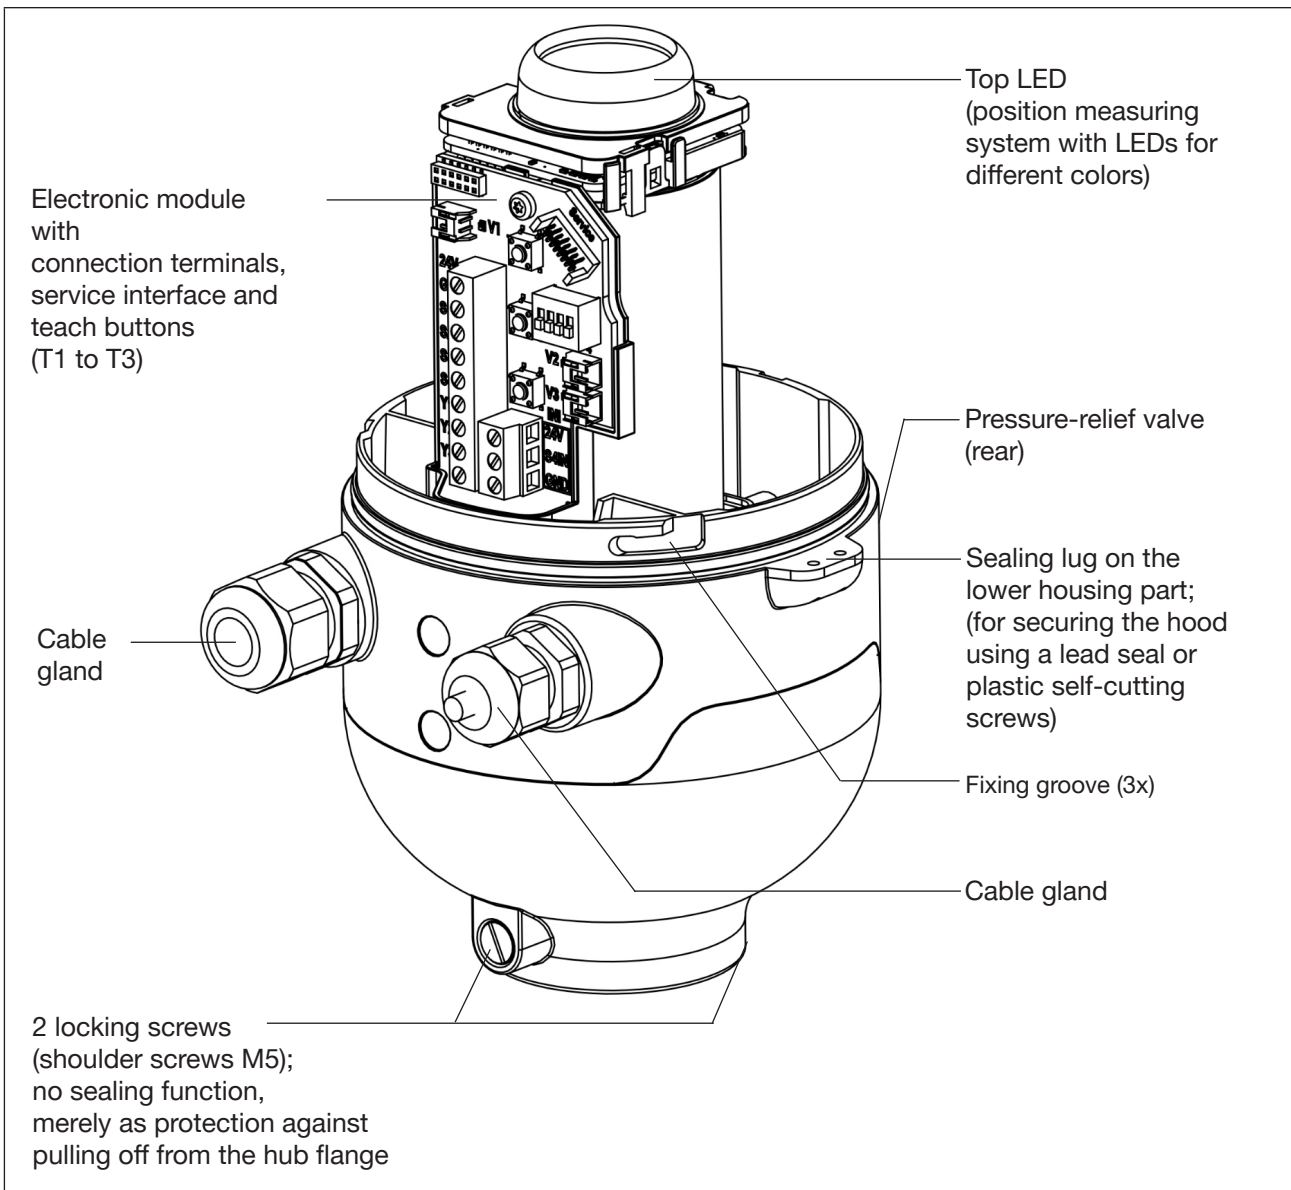

Fig. 2: Structure of a position feedback (IntelliTop 2.0 without solenoid valves)
*) If a solenoid valves is not present, the connection is sealed tightly with a cover plate. Control head versions without solenoid valves (i.e. "position feedback") do not have any pneumatic connections at the housing, see also "Fig. 2" and chapter "5.3.4 Number of solenoid valves" on page 18. The retrofitting of special cover plates is described in chapter "9.2.2 Retrofitting in case of intensive external cleaning" on page 41.